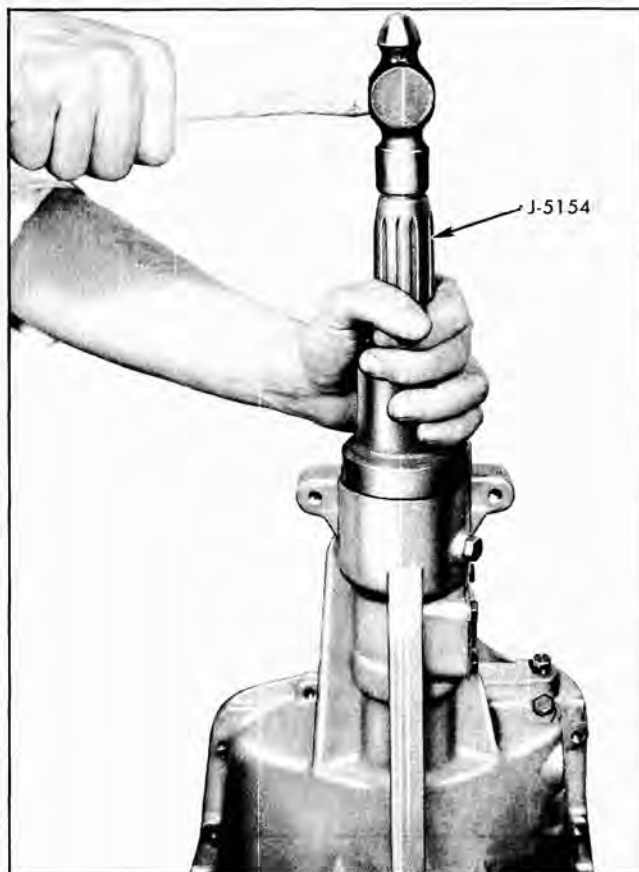

Fig. 125 Installing Rear Seal
6. If rear seal was removed, install new rear seal, using tool J-5154 (Fig. 125).